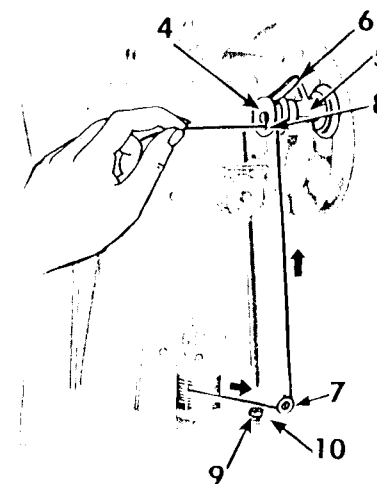

Fig. 14. Winding the Bobbin
- Remove bobbin from spindle 4, Fig. 14.
- Press down bobbin winder until latch 6, Fig. 14. engages.
- Loosen screw 9, Fig. 14.
- Move tension bracket 10, Fig. 14 to left if bobbin winds high on right; move bracket to right if bobbin winds high on left.
- Tighten screw 9, Fig. 14.